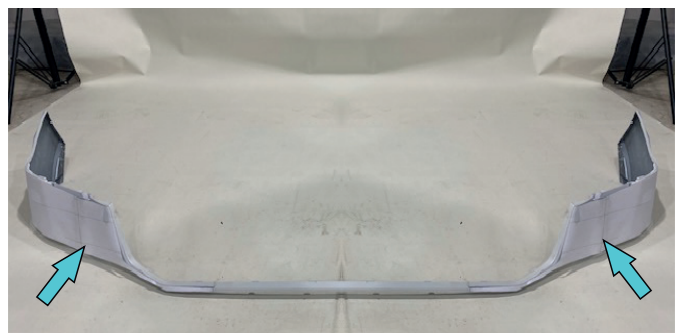

Fig.42
42. Prepare templates (item 25. 26) and stick it on OE bumper, as shown in fig.42.